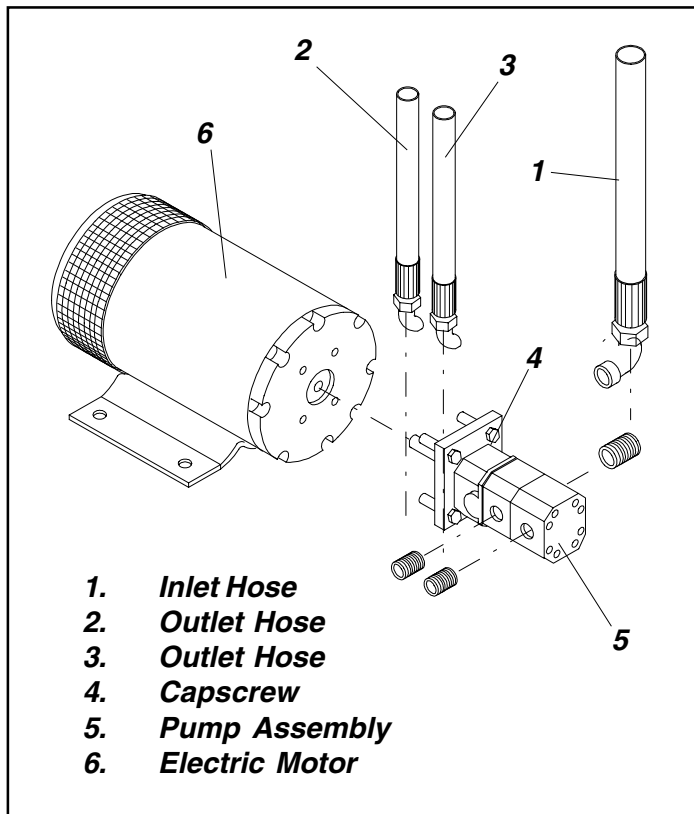

Figure 4-11: Hydraulic Pump
4.10 Hydraulic Pump (Figure 4-11)